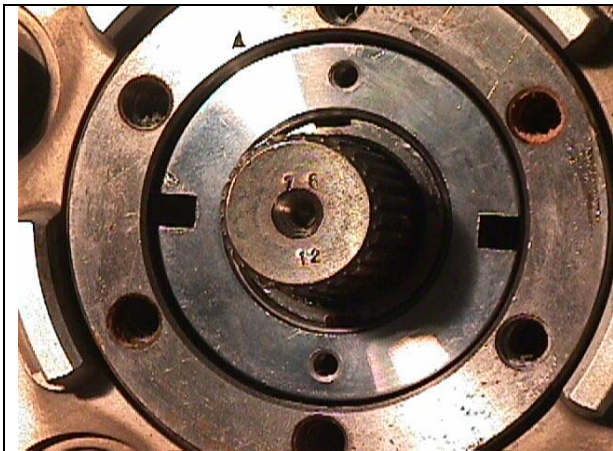

Figure 7
6. Install the new spindle nut, as shown in Figure 7. Rotate the wheel and spindle nut until the spindle nut is finger tight. Torque the spindle nut 4 to 8 kg-cm (3.5-7.0 lb-in).